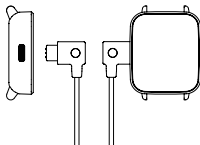

Fig.3-3
❶ Plug the SpO₂ probe into the probe socket of the Wrist Pulse Oximeter, ensure that the sensor is plugged correctly and firmly (see **Fig.3-3**).